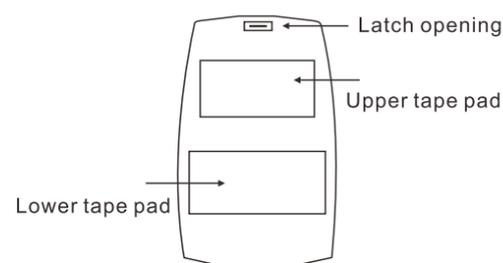

Fig4
- 2) Remove backing paper from one side of tape pads. Carefully align pads on sections of dispenser as shown. Do not cover latch opening. Press tape firmly against dispenser. (Fig4)